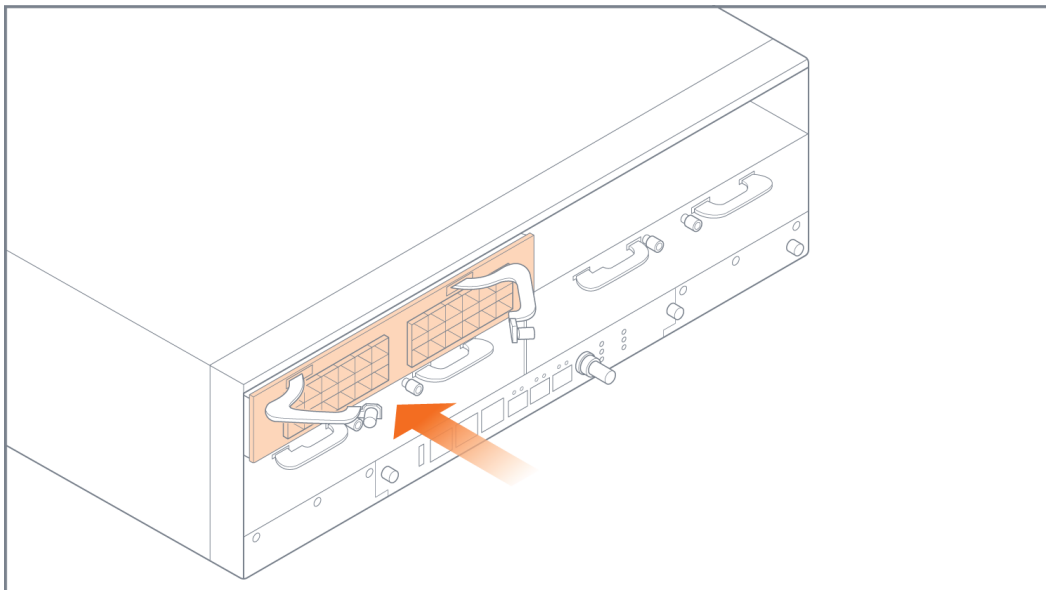

Figure 11 *Module Insertion*
2. Carefully slide the module into the bay until it mates with the mid-plane as shown in Figure 11 *Module Insertion*.